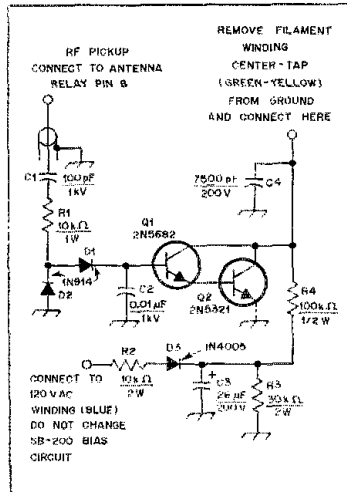

Fig. 1 — Electronic bias switching for the SB-200.
□ The following corrections should be made for Di Julio's article, "A State of the Art Terminal Unit for RTTY," December 1980 *QST*. In Fig. 1, C8 is 0.005 µF; R15 only is connected between the collector of Q3 and the base of Q4. R14 is wired between the collector of Q3 and the +9-V line. Mark the audio level control connected to U2 as R4. On the parts layout, Fig. 3, change Q5 to read Q3. Rearrange the 1N4003 diode markings so that D4 becomes D6, D5 becomes D4 and D6 becomes D5, to agree with the schematic diagram.
The circuit is shown in Fig. 1. Instead of modifying the Heath bias circuit, a positive voltage is applied to the normally grounded filament winding center tap through the Darlington pair. When excitation is applied to the SB-200, the two transistors turn on, the center tap is grounded and the amplifier operates normally. With no rf applied, the transistors are off, the center tap is at +125 V and the 572B tubes are cut off. The 7500-pf capacitor ensures that the center tap stays at rf ground.
Installation of the circuit in Fig. 1 can be made in cookbook fashion but much can be gained by a careful reading of the three referenced articles. They are well written and provide insights into how and why the scheme works.